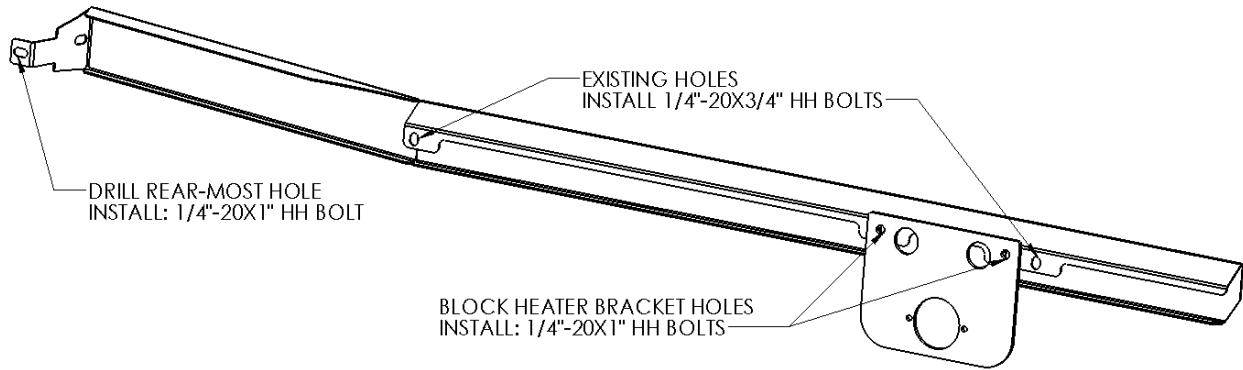

FIGURE 2 – DRIVER CAB PANEL, SHOWN FROM BACK
3. Temporarily fasten Cab panel to truck using the supplied 1/4"-20 X 3/4" hex head bolts through the existing (2) holes in truck (See Figure 2). Ensure the top of the skirt is snug up against the truck to minimize the gap.
4. Mark rear-most Cab panel hole to be drilled (See Figure 2).
6. Reinstall Cab panel and fasten in place with supplied hardware. At the same time, fasten the replacement Block Heater Bracket in place of the original bracket. (use 1/4"-20X 3/4" hex head bolts in existing truck holes (x2) as were temporarily installed in step 3, use a 1/4"-20X 1" hex head bolt in the (1) rear-most Cab panel hole that was drilled in step 5, and use 1/4"-20X 1" hex head bolts (x2) in Block Heater Bracket holes. Use (2) flat washers and a locknut at each fastener. (See Figure 2))